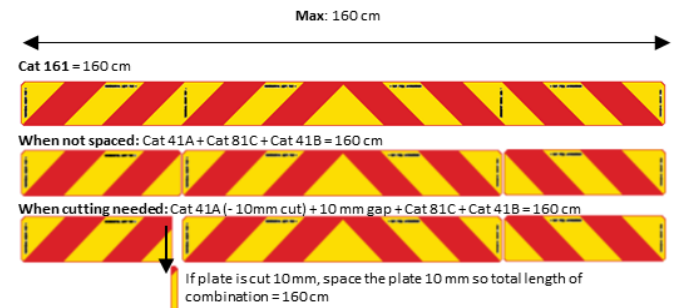

Figure 2. Example - Cutting
- If cutting is unavoidable, only remove a strip of material not wider than 10mm, and fit so that overall dimensions of the plates are maintained (see *Figure 2*).